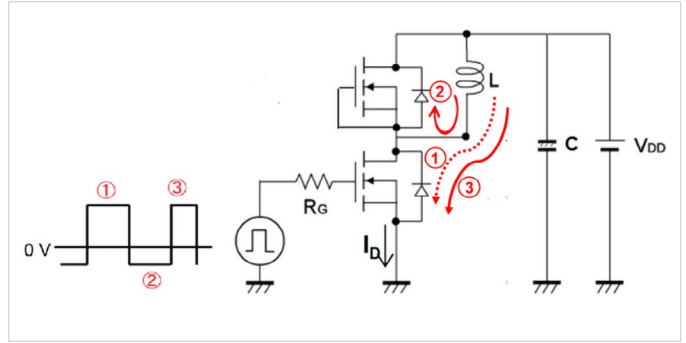
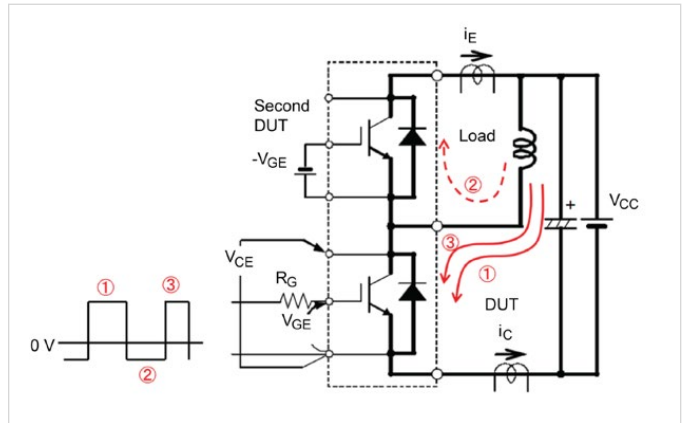
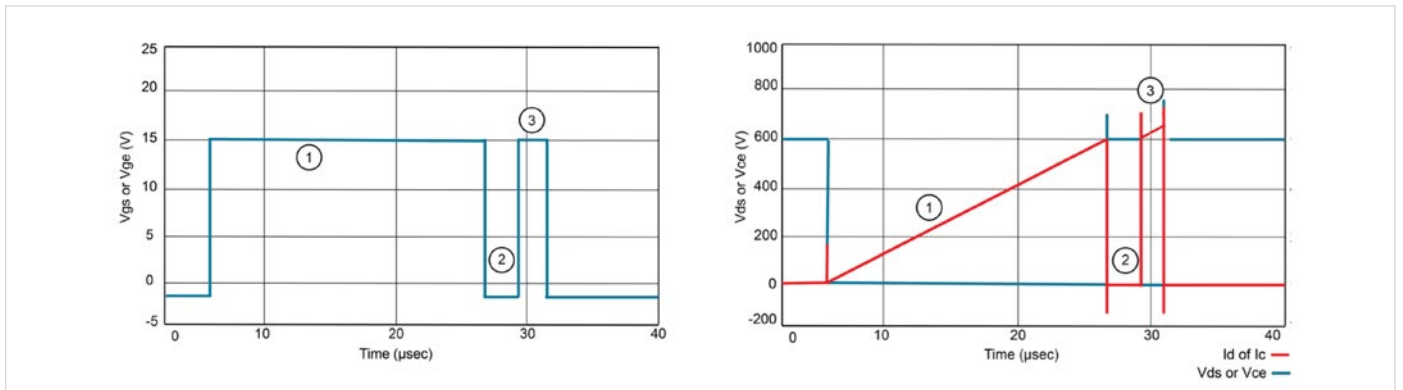
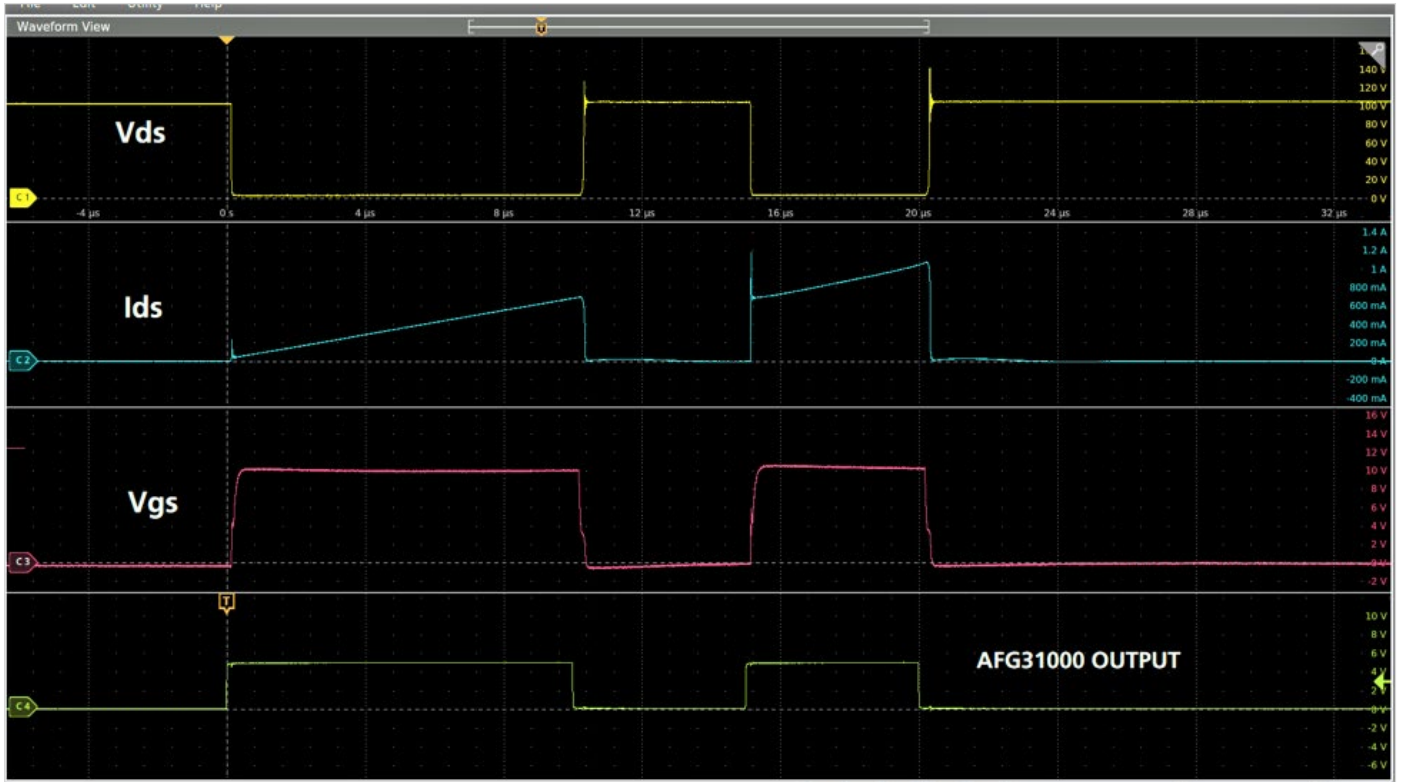

Figure 6: Current Flow with MOSFETs as DUTs.
Figure 7: Current Flow using IGBTs as DUTs.
Figure 8: Typical Waveforms of the Double Pulse Test.
Figure 16: Double Pulse Test waveforms.
Figure 6 shows the current flow within the different stages of the test for a Double Pulse Test with MOSFETs. The same current flow would apply when using IGBTs as shown in **Figure 7**.
Figure 8 shows typical measurements taken on the low side MOSFET or IGBT. Here are the different stages of the Double Pulse Test (These stages refer to **Figures 6, 7 and 8**)
- The first step, represented by turn-on pulse number 1, is the initial adjusted pulse width. This establishes current in the inductor. This pulse is adjusted to get to the desired test current (I_d) as shown in **Figure 8**.
- The second step (2) is to turn-off the first pulse, which creates current in the free-wheeling diode. The turn-off period is short to keep the load current as close as possible to a constant value through the inductor. **Figure 8** shows I_d on the low side MOSFET that goes to zero in step 2; however, the current is flowing through the inductor and the high side diode. This could be seen in **Figures 6 and 7**, as the current flows through the diode of the high side MOSFET (the MOSFET that doesn't get turned on).
- The third step (3) is represented by the second turn-on pulse. The pulse width is shorter than the first pulse so that the device is not overheated. The second pulse needs to be long enough for the measurements to be taken. The current overshoot seen in **Figure 8** is due to the reverse recovery of the free-wheeling diode from the high side MOSFET/IGBT.
The SMU instrument is set to source 100 V into HV. The 5 Series MSO is then set to take a single trigger measurement. Now the AFG31000 is triggered to output pulses. The resulting waveforms are then captured on the scope as shown in **Figure 16**.
Notice the waveforms in **Figure 16** resemble the ones shown in **Figure 8**. Again, the current overshoot seen on I_{ds} is due to reverse recovery of the free-wheeling diode from the high side MOSFET/IGBT. This spike is intrinsic to the device being used and will contribute to the losses.